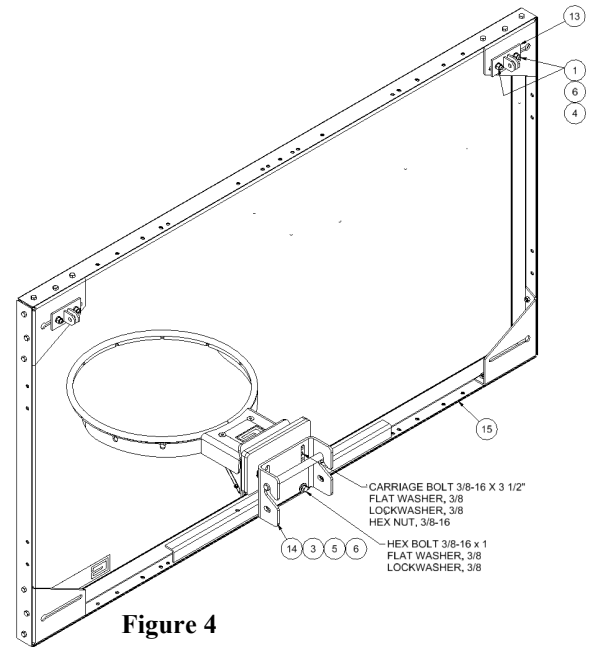

Figure 4
- Position the Quick Change Backboard Bracket, item 14, to the back of the board and install a 3/8-16 x 1" bolt with flat washer and lock washer in the lower two holes of the mounting plate and into the two tapped insert holes of the LXP backboard, item 15, as shown in figure 4. Tighten these bolts securely to 15-20 ftlb [20-27 Nm].